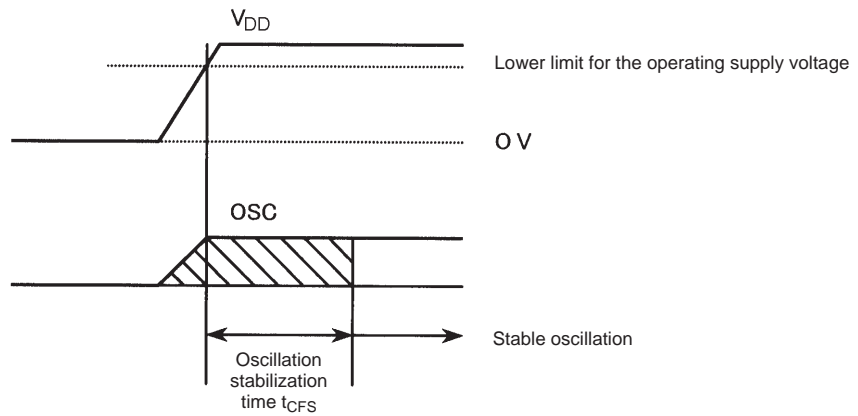

Figure 4 Oscillation Stabilization Time
8. Indicates the time required to achieve stable oscillation from the point  $V_{DD}$  rises above the lower limit of the operating voltage range (See figure 4).